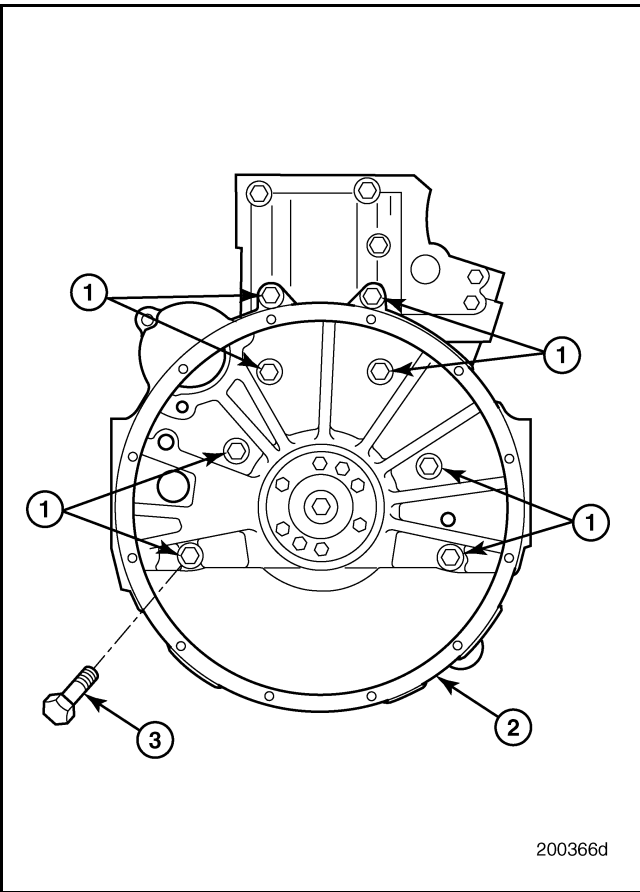

Figure 183 — Flywheel Housing Removal
- 1. Support the flywheel housing and remove the eight mounting capscrews (Figure 183).